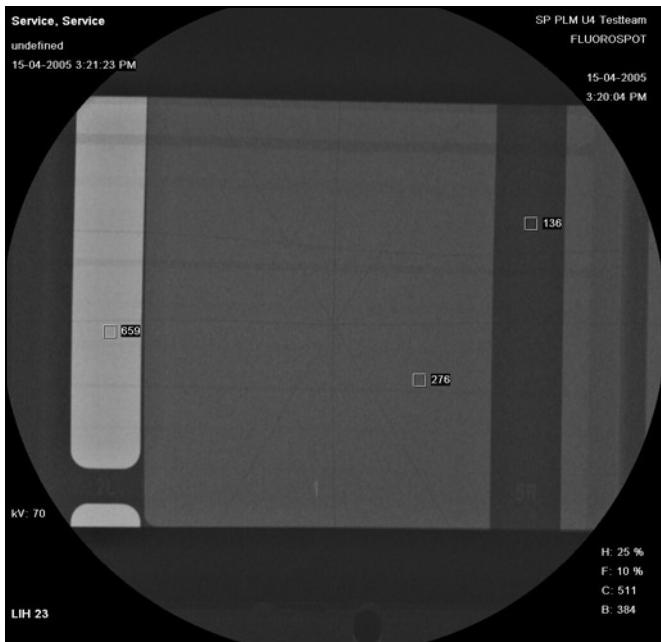

Fig. 3
- Store LIH through selecting the button "Store", start IEM and measure the grey values in field 2L, 1 and 5R by selecting the button "ROI20" (Fig. 3).